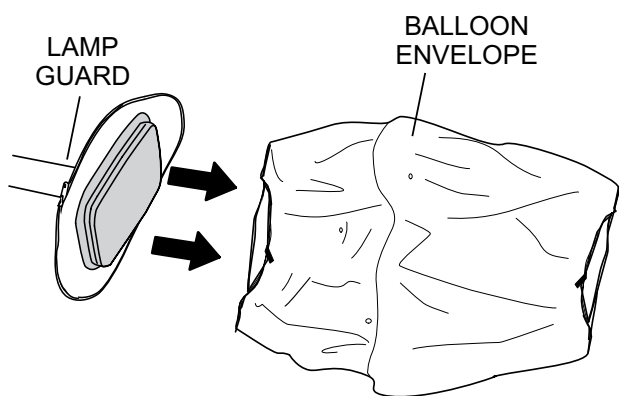

Figure 27. Removing the Balloon Envelope
2. Slide the old or worn balloon envelope (Figure 27) over the top of the lamp guard assembly.